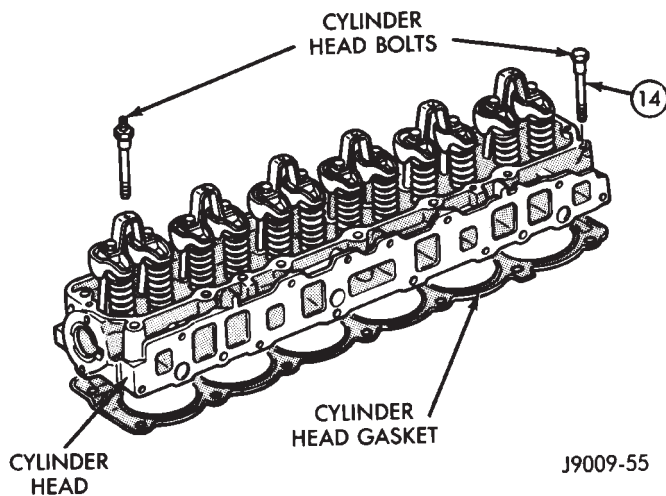

Fig. 3 Engine Cylinder Head Assembly
(9) If equipped, disconnect the power steering pump bracket. Set the pump and bracket aside. **DO NOT** disconnect the hoses.
(10) Remove the fuel lines and vacuum advance hose.
(11) Remove the intake and engine exhaust manifolds from the engine cylinder head (refer to Group 11, Exhaust System and Intake Manifold for the proper procedures).
(12) Disconnect the ignition wires and remove the spark plugs.
(13) Disconnect the temperature sending unit wire connector.
(14) Remove the ignition coil and bracket assembly.
(15) Remove the engine cylinder head bolts. Bolt No.14 cannot be removed until the head is moved forward (Fig. 3). Pull bolt No.14 out as far as it will go and then suspend the bolt in this position (tape around the bolt).
(16) Remove the engine cylinder head and gasket (Fig. 3).
(17) If this was the first time the bolts were removed, put a paint dab on the top of the bolt. If the bolts have a paint dab on the top of the bolt or it isn't known if they were used before, discard the bolts.
(18) Stuff clean lint free shop towels into the cylinder bores.